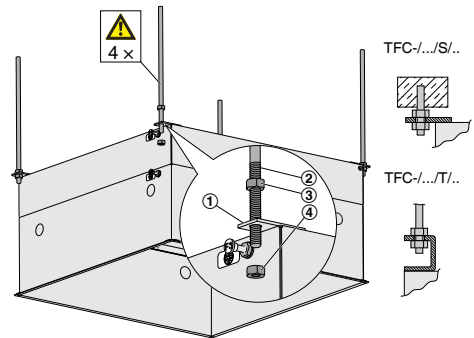

Fig. 2: Suspension from fixing brackets
Fix any suspension elements, e.g. threaded rods (Fig. 2/2), to the ceiling.
3. ▶ Start by suspending the TFC casing on three suspension lugs (Fig. 2/1); ensure that the casing is horizontal, fix the nuts accordingly (Fig. 2/4), then use the locknuts (Fig. 2/3) to secure the suspended casing.